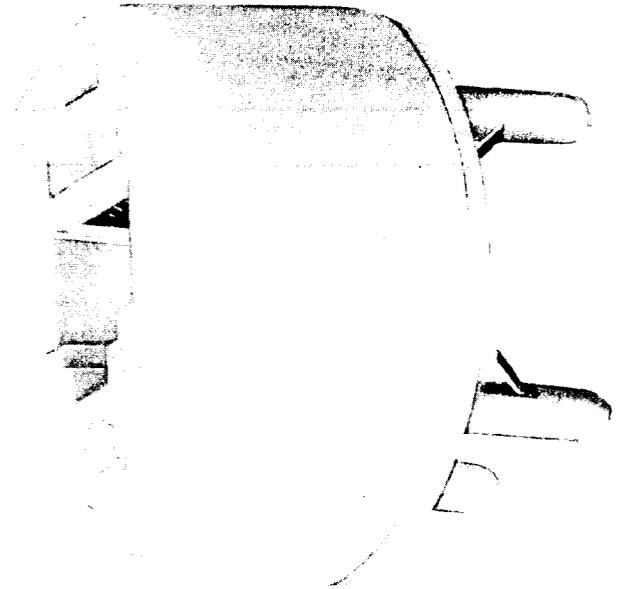

Fig. 3—1A Converter
2.03 The 1A converter (Fig. 3) is used to permanently convert 4-pin jacks to the modular system.